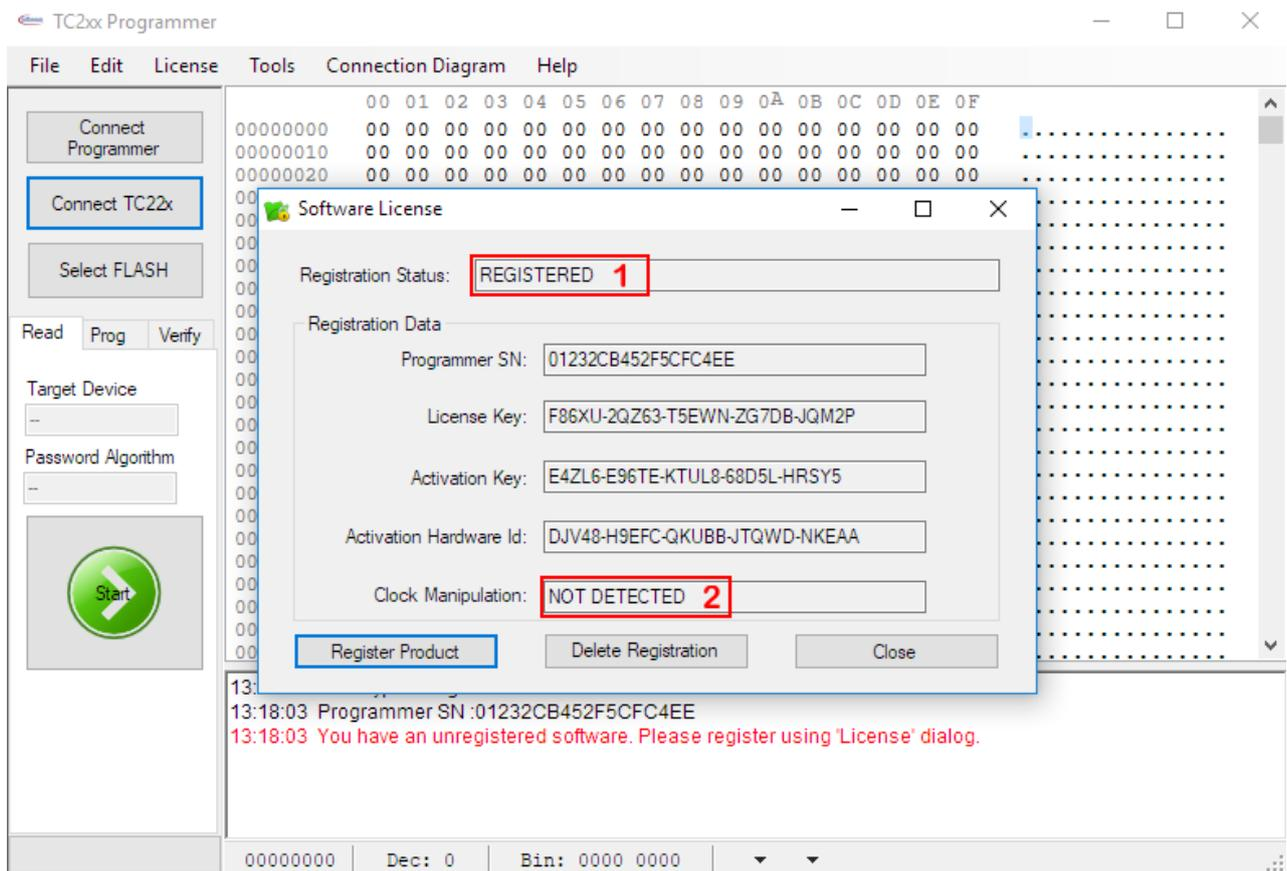

Figure 15 Successful TC2xx-Programmer software activation
- After Activation process completed, the "Registration Status" must be "REGISTERED" and "Clock Manipulation" is "NOT DETECTED" (Figure 15).